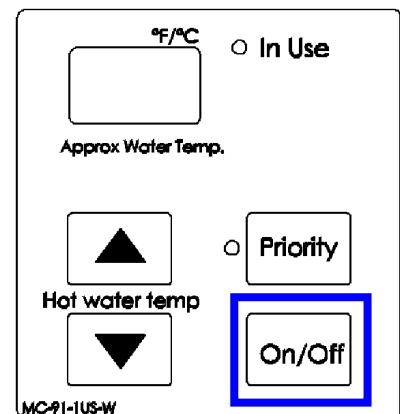

Figure 13. On/Off Button
- 21 Turn on the incoming electric power and press the **On/Off** button on the front of the tankless water heater (Figure 13).